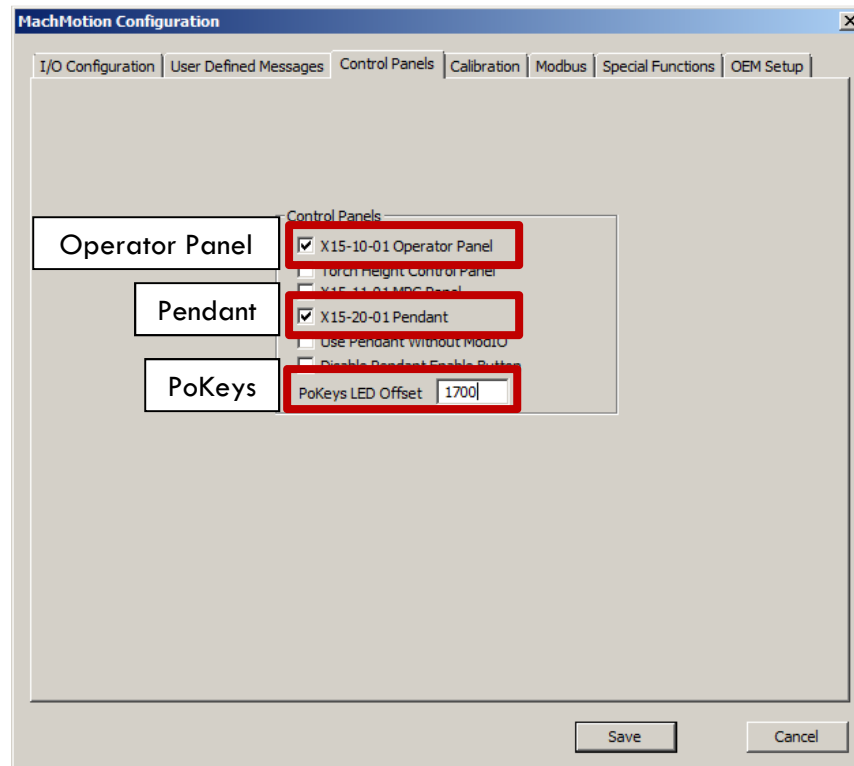

FIGURE 12 - MACHMOTION PLUGIN CONTROL PANEL OPTIONS
3. Check the box for X15-10-01 Pendant (see Figure 12)
4. Set the PoKeys LED Offset to 1700 (see Figure 12)
3. Check the box for X15-20-01 Operator Panel (see Figure 12)